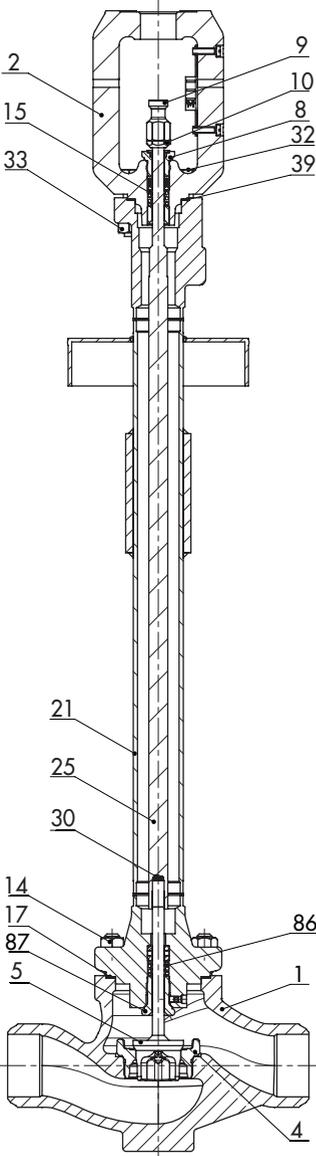

Fig. 3-1: Type 3246 Globe Valve with welding ends, Class 150 and 300/PN 16 and 40
- Globe valve, Class 150 and 300/PN 16 and 40 (see Fig. 3-1)